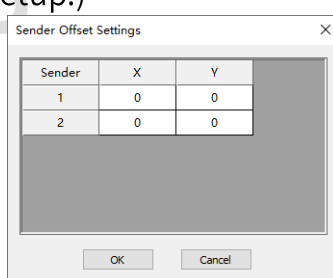

Fig 8.4.5.1 Senders offset setting
Step 1: Double-click on **Brightness/Chroma** under **Pixel-by-pixel Calibration** in the main interface to set parameters under **Senders Offset Setting**. Then, click **OK** to access the **Brightness/Chroma Calibration** interface, as shown in Figure 8.4.5.1.